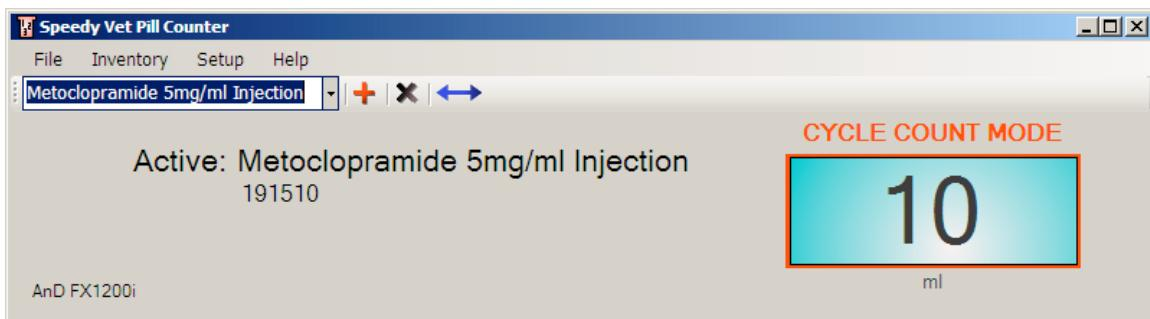

Figure 9: Enters Cycle Count Mode after Adding Item. Equals amount of injectable used.
Step 7: After adding the inventory item, the main window will automatically enter into Cycle Count Mode (see Figure 9) with the item that was just added as the active item. This provides a double-check to the user that the item was added correctly. The count display should always equal the amount of injectable in the full container after adding an inventory item.